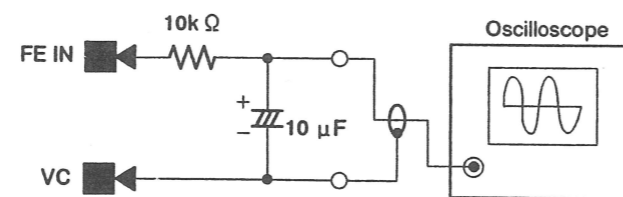

Fig. 6-2
1. Connect the oscilloscope to test point FE IN as shown in Fig. 6-2.